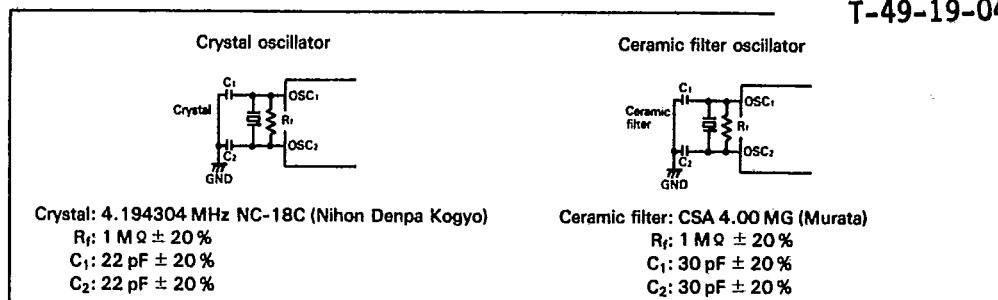

Figure 30. Oscillator Circuit
1. Oscillator stabilization time is the time until the oscillator stabilizes after VCC reaches its minimum allowable voltage after power-on, or after RESET goes high. At power-on or STOP mode release, RESET must be kept high for at least tRC. Since tRC depends on the crystal or ceramic filter's circuit constant and stray capacitance, please get the manufacturer's advice when designing the RESET circuit. (See figure 30)